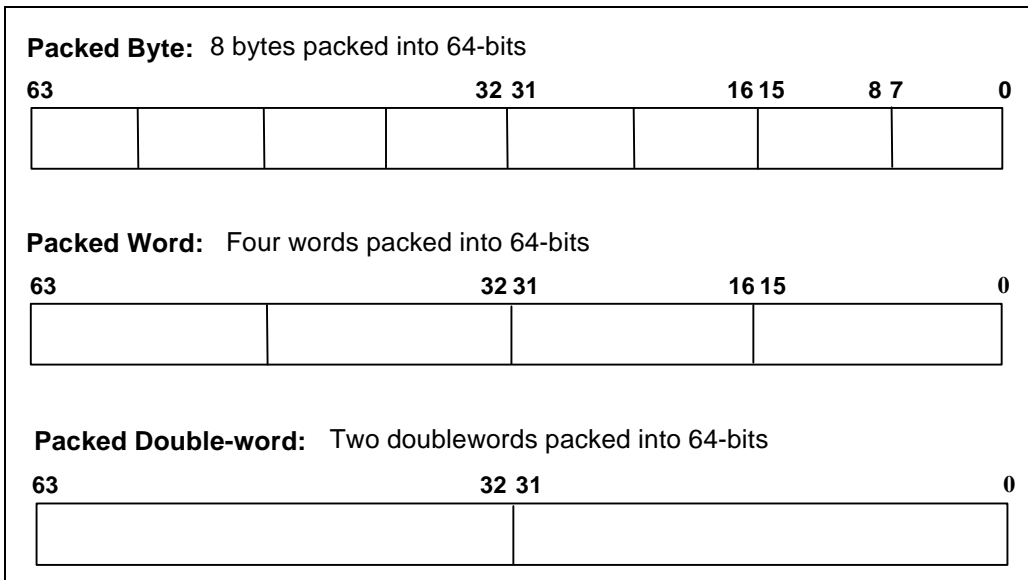

Figure 2-6. New Data Types
Intel's MMX technology is an extension to the Intel Architecture (IA) instruction set. The technology uses a Single Instruction, Multiple Data (SIMD) technique to speed up multimedia and communications software by processing data elements in parallel. The MMX instruction set adds 57 new opcodes and a new 64-bit quadword data type. The new 64-bit data type, illustrated in Figure 2-6, holds packed integer values upon which MMX instructions operate.